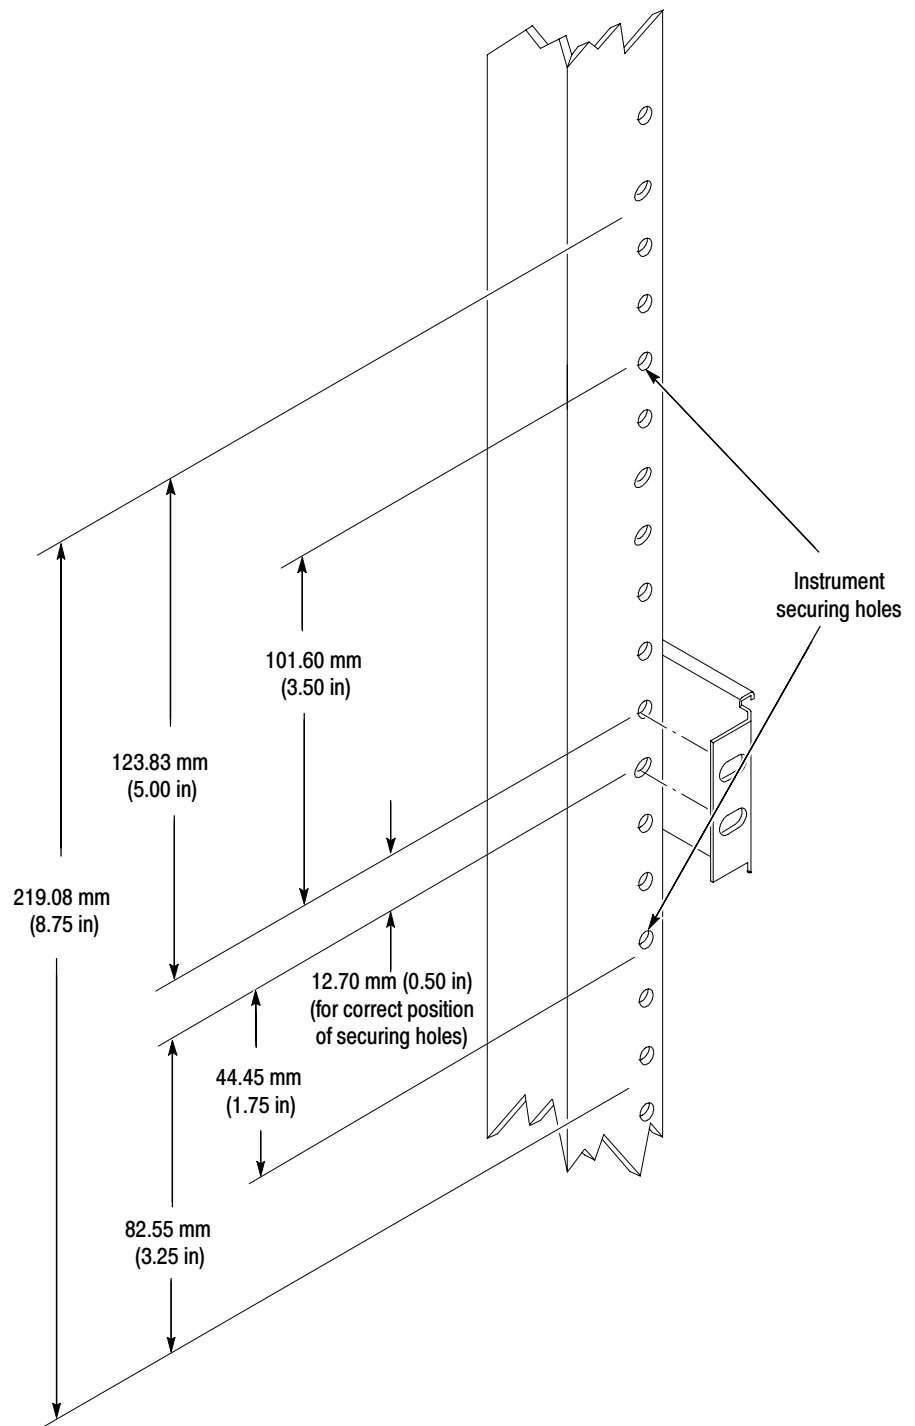

Figure 16: Vertical clearances for rack installation (left-front rail shown)
- a. *Select the mounting position in rack:* Select two 0.5 inch-spaced holes in the front rail. Verify that clearances of 4.875 inch above and 3.25 inch below exist, relative to those mounting holes. See Figure 16 on page 21.